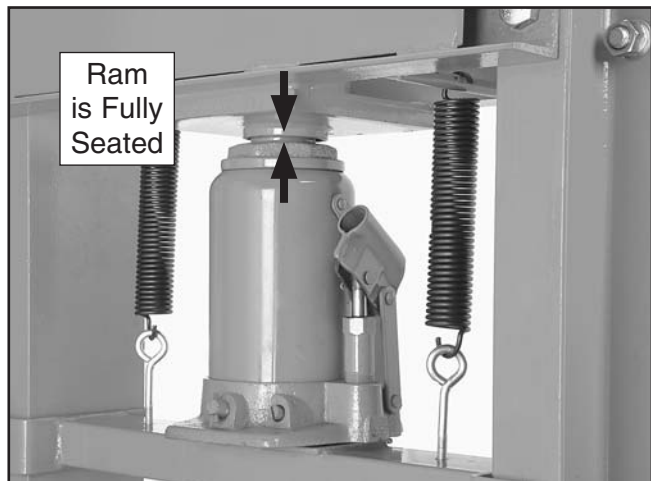

Figure 12. Ram seating verification.
12. Double check that the ram of the jack is fully seated in the ram receiver, as shown in **Figure 12**, or the jack could fall out of its mounting and cause severe injury.